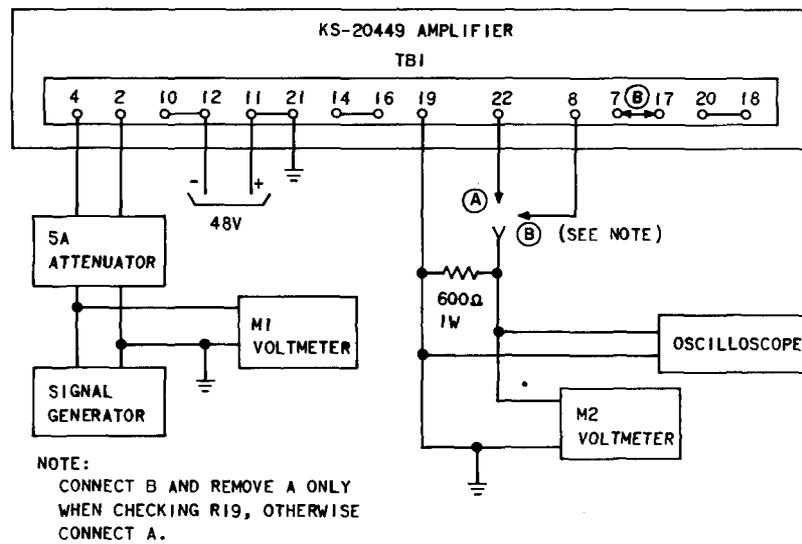

Fig. 1—Test Setup for Gain-Frequency, Power-Output, and AGC Compression Range Tests
3.06 The amplifier may be tested using either 24- or 48-Vdc positive or negative grounded power supply. Fig. 1 and 2 show test circuits using 48-Vdc positive grounded power supply.
1	Connect the equipment as shown in Fig. 1.
7	Connect B and remove A (Fig. 1). This is a test for potentiometer R19.
10	Remove B and connect A (Fig. 1).